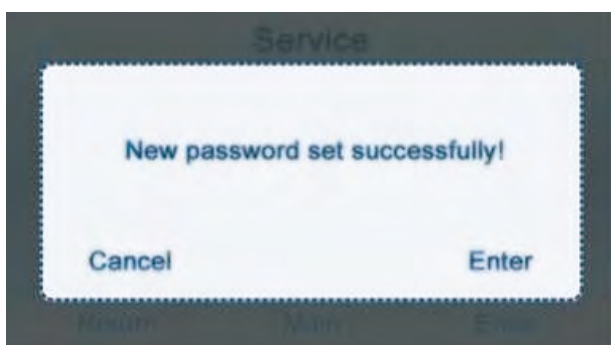

Figure 11
E. If the new password has been set successfully, a window prompting "New password set Successfully!" as shown in Figure 11 will appear; press "Enter" or "Cancel" to return to the previous menu.